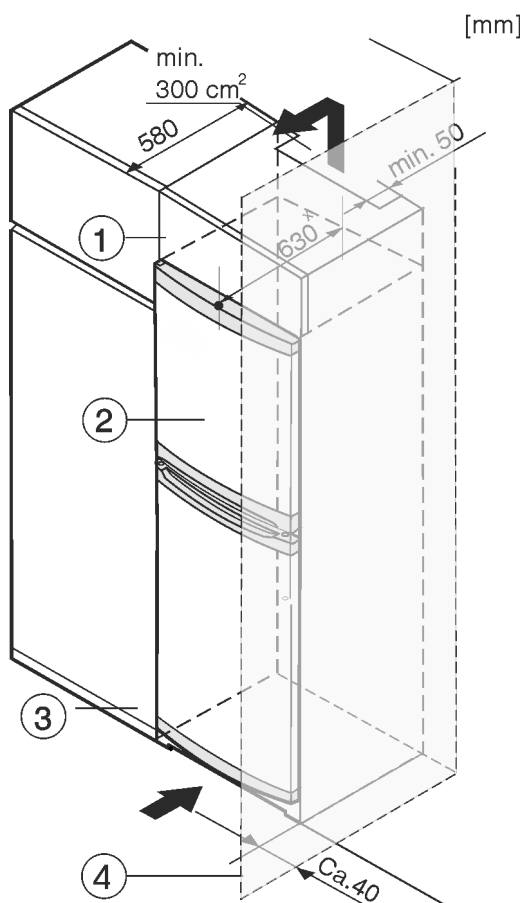

Fig. 8
The appliance can be built into kitchen units. A top cupboard Fig. 8 (2) can be added above the appliance in order to bring the appliance Fig. 8 (1) up to the height of the fitted kitchen units.
When fitting kitchen cupboards around the appliance (max. depth 580 mm), you can install the appliance directly next to the kitchen cupboard *Fig. 8 (3)*. The appliance protrudes 34 mm \* to the side and 50 mm \* in the centre of the appliance in relation to the kitchen cupboard front.
If the appliance is set up with the hinges next to a wall *Fig. 8 (4)*, the distance between the appliance and the wall must be at least 40 mm. This is how far the handle protrudes when the door is open.